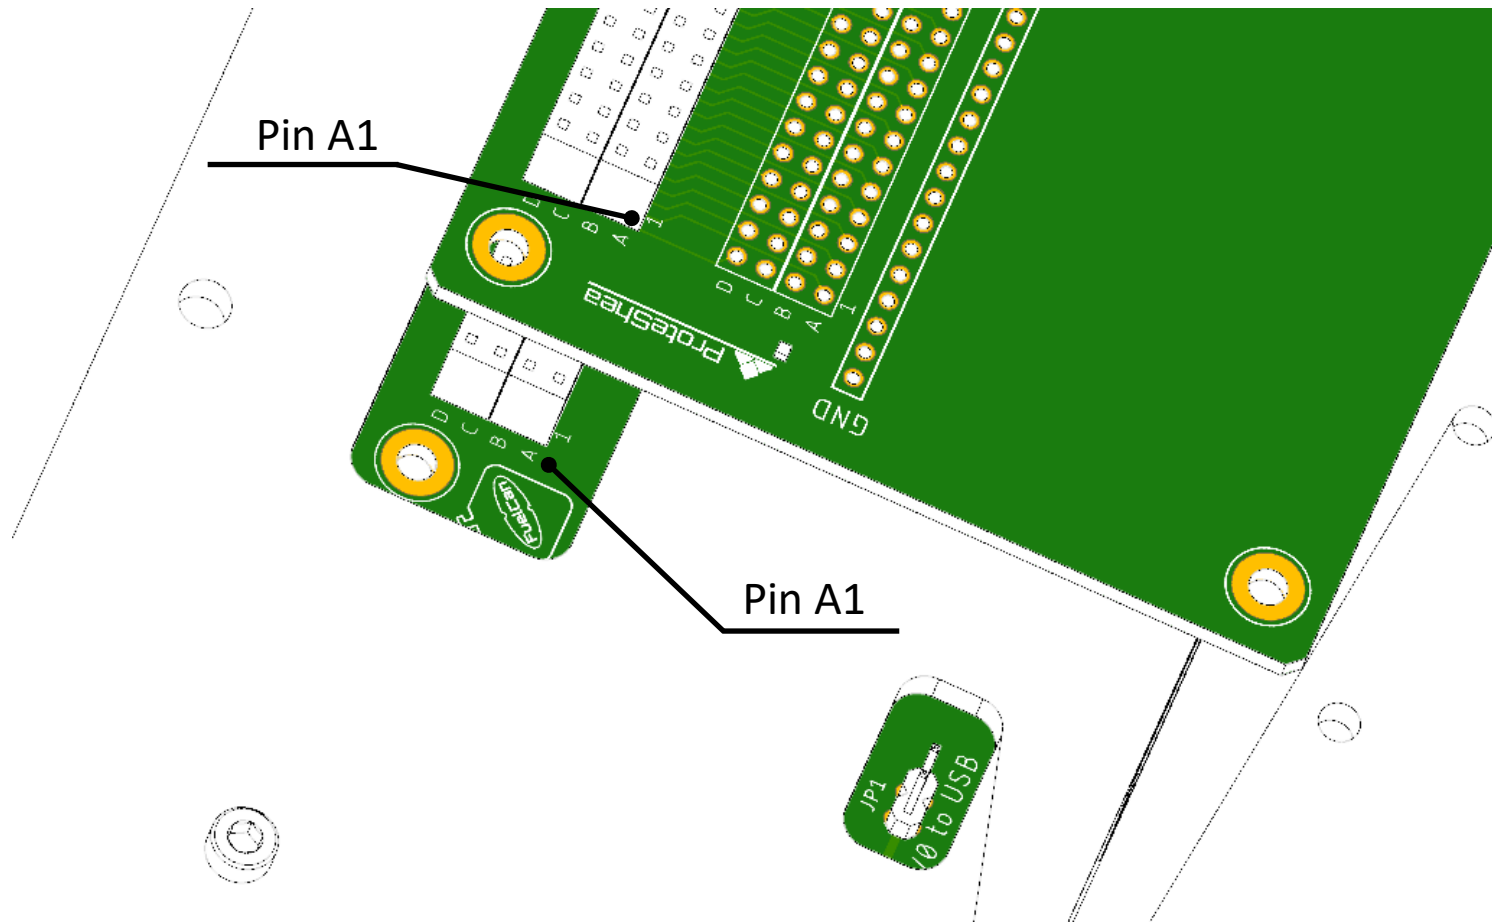

Figure 8. Proper Alignment of Canister to Main Interface Board.
3. Use Fig. 8 below to correctly orientate the Canister with the Fuelcan Main Interface or another Canister by aligning pin A1 on both boards.